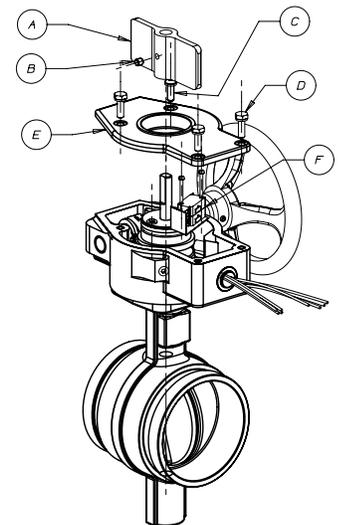

Fig. 8
1. See Figure 8 - Remove Flag (A) by backing out (approximately 2 turns) socket screw (B).
2. Remove one socket pin head screw (C), three hex head bolts (D), and gear operator cover (E). Note that a special wrench is required to remove the "tamper-proof" socket pin head screw (C).
3. Remove two slotted head screws that hold switch assembly (F) into housing, and one slotted head screw that secures ground wire. Remove switch assembly (F).
4. Feed electrical wires on new switch assembly through hole in rear of housing. Place switch assembly (F) into housing with actuating arms against the segment gear. Make sure insulation paper is located under switches.
7. Reinstall cover (E) and screws (C) and (D).